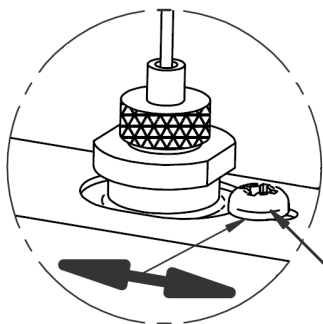

FIG. 4
7. Balance fixtures (see FIG. 4) and make final adjustments to height and straightness of fixtures. (see Hanger Installation instructions)